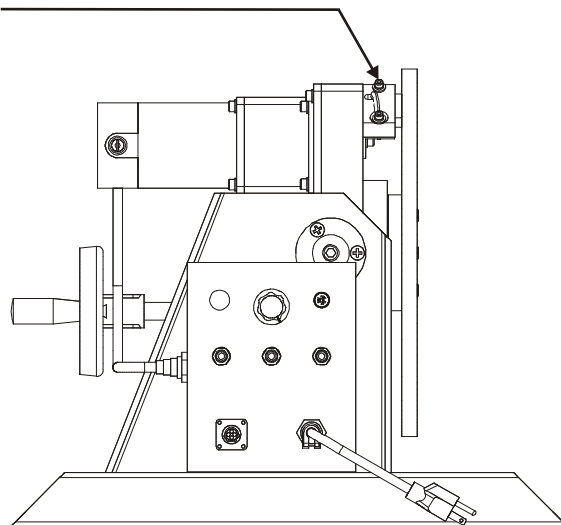

**Figure No. 2**
3. Mount the work piece to the turn table making sure that the center of gravity is within 4" of the center of the turn table as shown in figure No. 2.